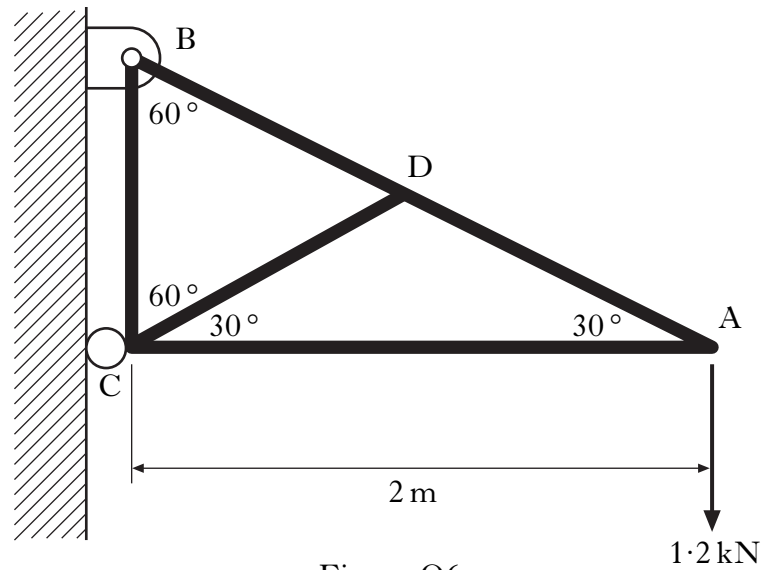

Figure Q6
6. A frame structure is shown in Figure Q6.